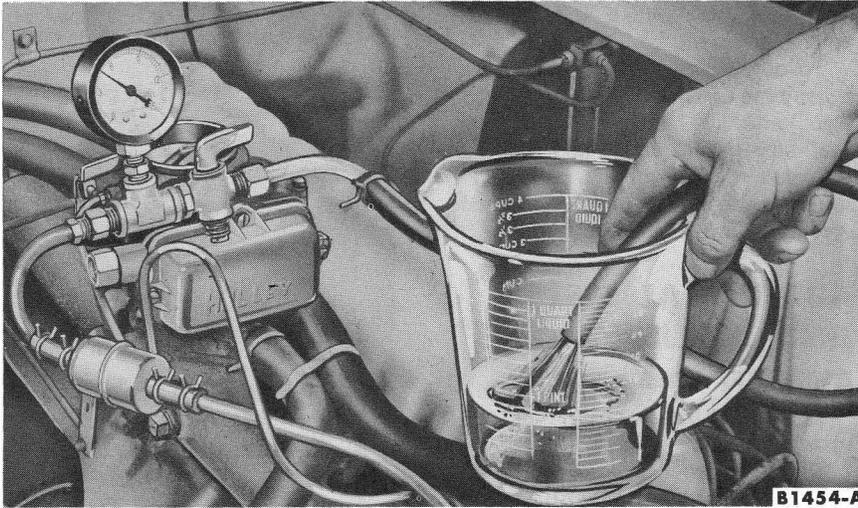

FIG. 15—Fuel Pump Pressure and Capacity Test
16. Check Fuel Pump Pressure And Capacity. Disconnect the fuel line at the carburetor. Install a pressure gauge (0-15 psi) and a petcock on the carburetor fuel inlet line (Fig. 15). Vent the system, by opening the petcock momentarily, prior to taking a pressure reading. Operate the engine at the specified rpm. After the pressure has stabilized it should be within 3.5-5.5 psi.